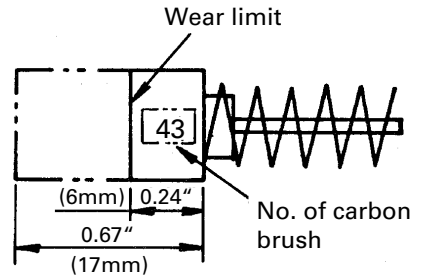

Fig. 6
4. Inspecting the carbon brushes (Fig. 6)
**NOTE:** Use metabo HPT carbon brush No. 43 indicated in Fig. 6.